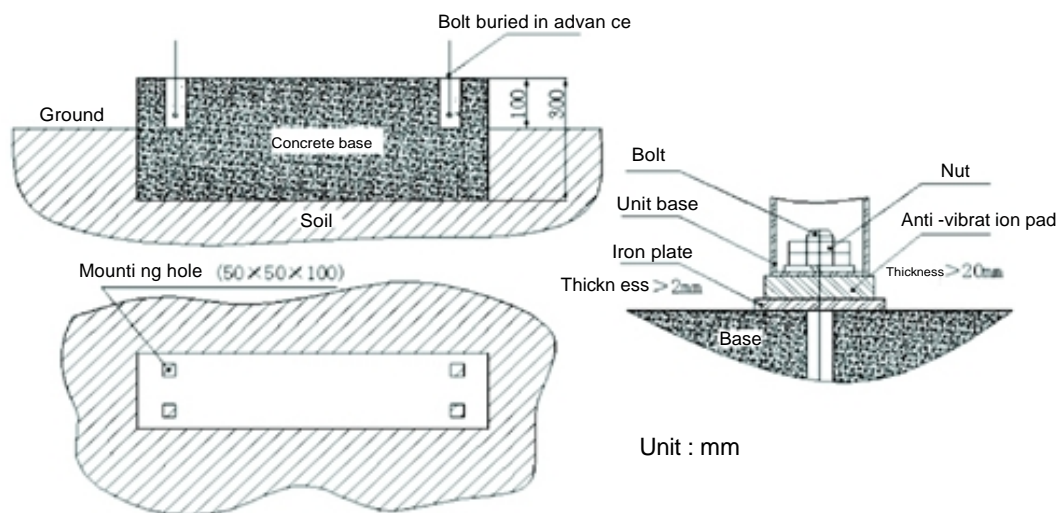

Fig 4 Concrete foundation installation sketch map of outdoor units
- 9) The length of the foundation is the length of the unit added 500 mm and the width is the width of the unit added 400 mm . As for the detail , please refer to Fig 4 (unit : mm) :